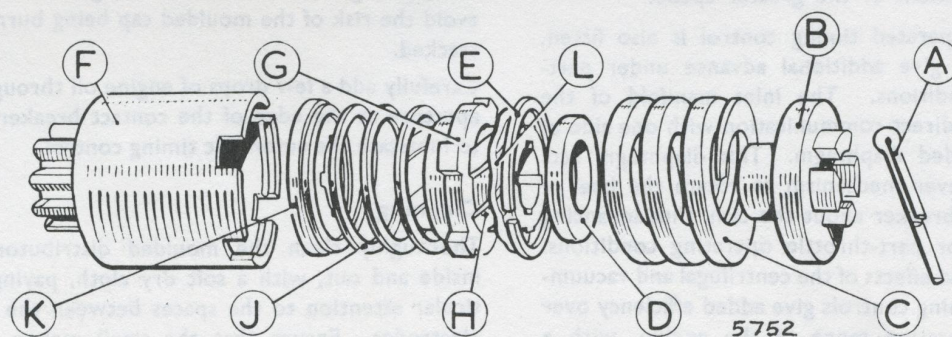

Fig. 18. Exploded view of starter drive
2. Press the new bearing bush into the end bracket using a shouldered, highly polished mandrel of the same diameter as the shaft which is to fit in the bearing (Fig 18) Porous bronze bushes must not be opened out after fitting, or the porosity of the bush may be impaired.
Having removed the armature as described in the section dealing with starting motors, the drive can be dismantled as follows (see Fig. 18):—